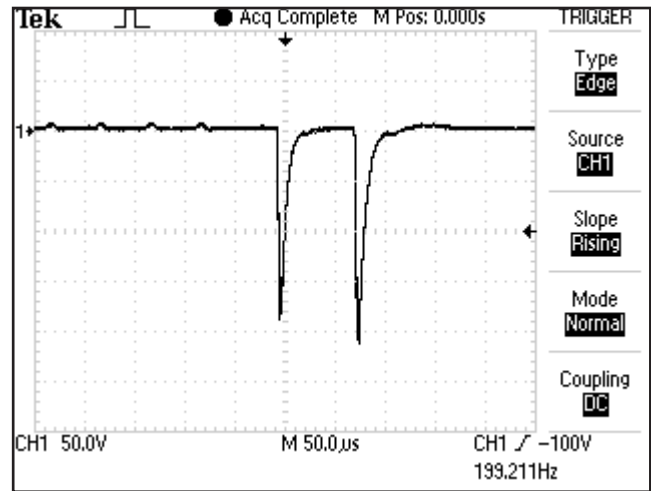

FIGURE 4.2
A. High Voltage Pulsed Current (HVPC)- Figure 4.2 (Factory Default Setting)